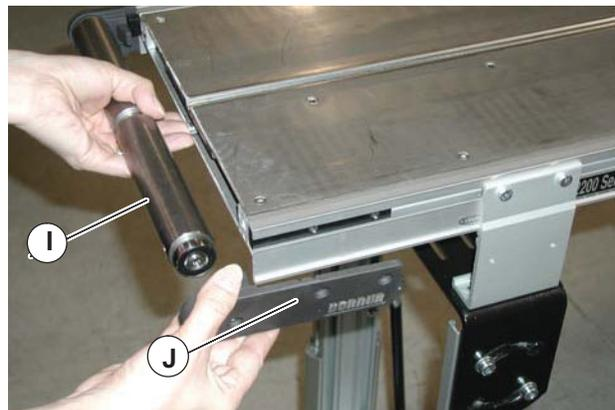

Figure 8
5. Insert the new idler pulley (Figure 8, item I) into the head plate on the opposite side.
6. Install the second head plate (Figure 8, item J). Leave the (4) head plate mounting screws finger tight.